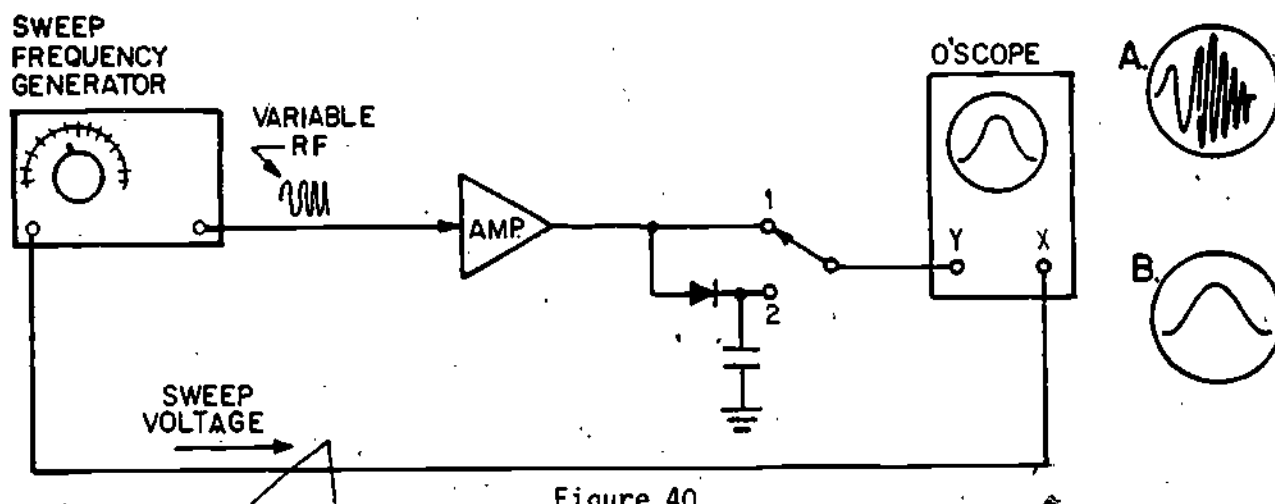

Figure 40
- (4U.) Now let's use the sweep-frequency generator to test the frequency response curve of an amplifier. Figure 40 shows a typical test set-up.
In this test method, the sweep generator is used to produce a band of frequencies that varies back and forth over the amplifier's frequency range. The amplifier will then amplify the variable input frequencies according to its ability at any point in the frequency spectrum. The result of this amplification is shown in insert A of Figure 40. Although this display does provide some indication of the amplifier's response, it is not the smooth curve desired.